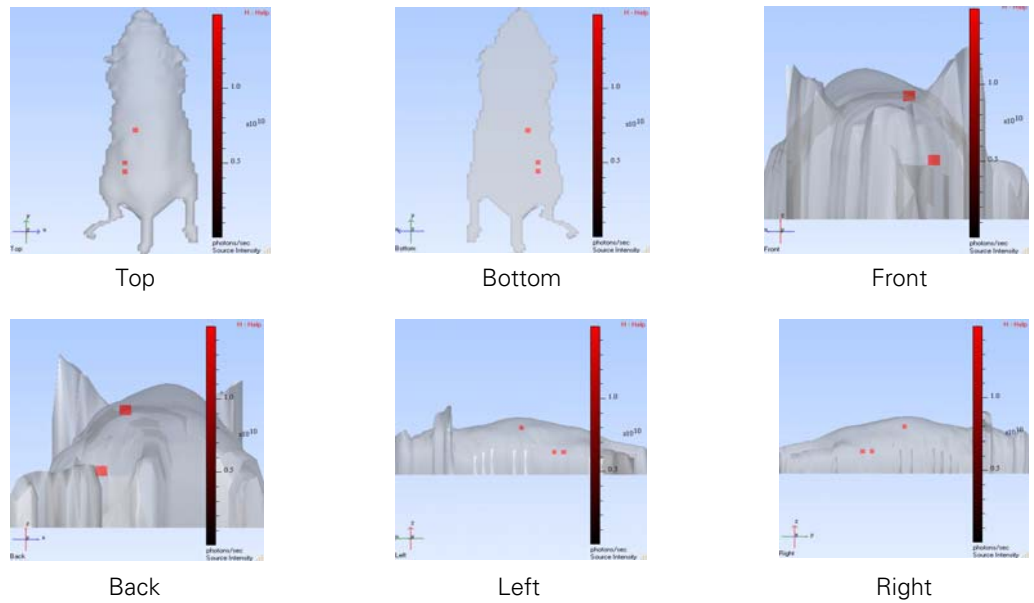

Figure 12.6 Alternative views of the surface
Select this tool from the drop-down list to change the view perspective (top, bottom, left, right, front, back, or perspective view). For examples of the views, see Figure 12.6 .
You can view a 3D image from different perspectives. Figure 12.6 shows examples of the other available views.
- Alternatively, click the surface, then press the **V** key to cycle through the different views of the surface (Figure 12.6).